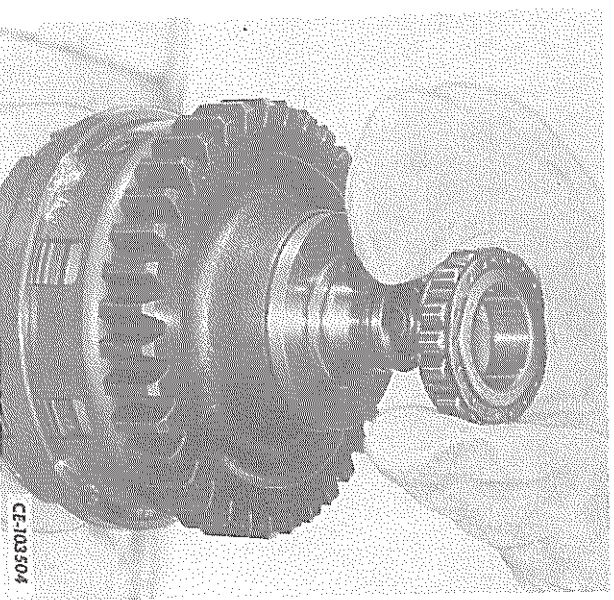

FIG. 70 – Installing the Rear Bearing Inner Race
29. Install the heated inner race of the rear bearing on the shaft (Fig. 70). Secure with snap ring.